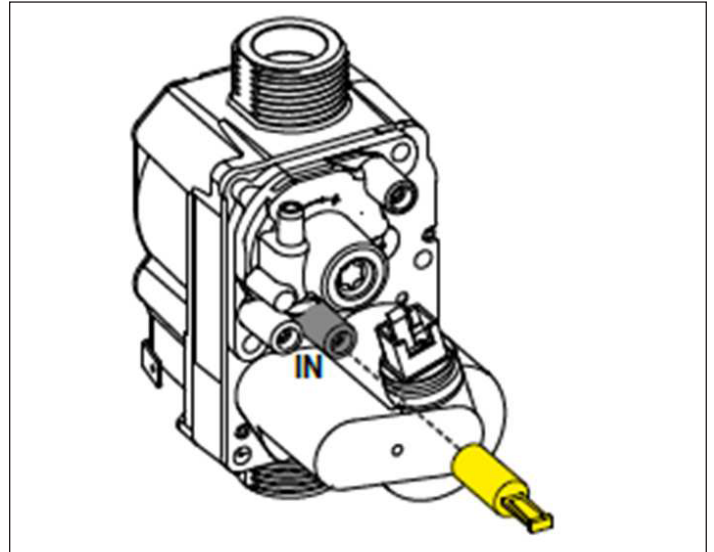

Figure 57 - Remove Yellow Cap
**NOTE:** Refer to Figures 57 and 58 when checking gas pressure. Loosen the bolts before checking the gas inlet pressure.
1. Remove yellow cap from line pressure test point. See Figure 57.